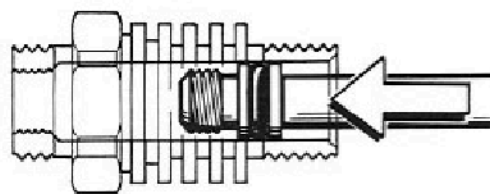

Figure 10
10. Place the lever support assembly (item 6) into the box bottom (item 2).
11. Lightly lubricate the O-ring (item 13) with Dow Corning 111 (pure silicone grease). Place the O-ring in the groove of the box bottom. Next, lightly lubricate the first two threads of the ribbed plug (item 14).
12. Thread the ribbed plug (item 14) clockwise into the box bottom (item 2) until its threads engage with those of the lever support (item 6).
13. Connect a 5mm Allen wrench adapter to a torque wrench. Tighten the ribbed plug (item 14) clockwise to 22 ± 3 inch-pounds.
14. Install a new disc (item 15) into the end of the retainer (item 16). Place the spring (item 17) over the threaded end of the retainer.
15. Drop the retainer and spring assembly (items 16 & 17) - spring end first - into the inlet fitting boss of the box bottom (item 2). Next, while holding the intermediate screw (item 12) with a 7mm open-end wrench, gently compress the disc and retainer assembly with the disc and retainer wrench. Once the threads of the retainer are aligned with those of the intermediate screw, turn the disc and retainer wrench clockwise until snug. Remove the 7mm wrench and disc and retainer wrench.
16. Lightly lubricate the O-ring (item 18) and install it on the crown (item 19). Place a small amount of silicone grease on the first two threads of the crown. Insert the crown (item 19) into the inlet fitting (item 20) cone seating surface first. Push the crown with the seat extractor into the inlet fitting until it stops (see figure 10).